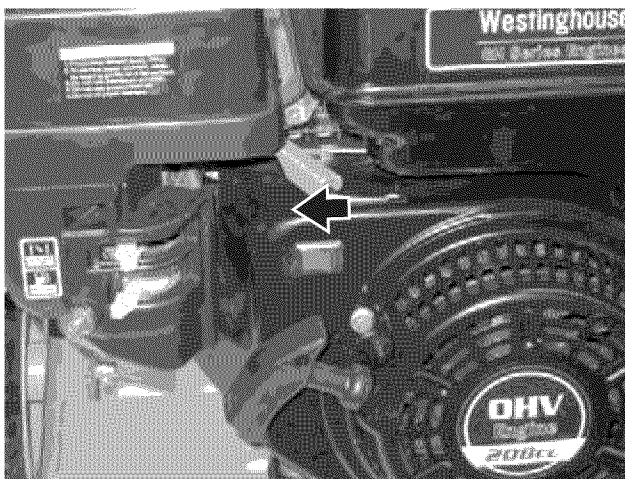

Figure 41 – Engine ON/OFF Switch
4. Move the engine ON/OFF switch to the **ON** position (I) (see Figure 41).